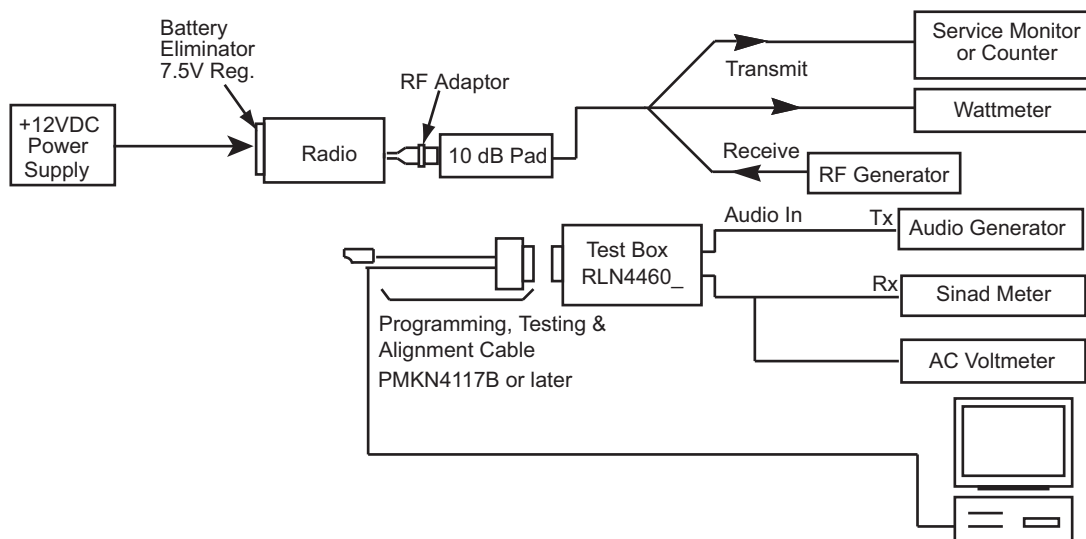

Figure 4-2. Radio Tuning Equipment Setup
A personal computer (PC), Windows 2000/XP/7/8 and a tuner program are required to tune the radio. To perform the tuning procedures, the radio must be connected to the PC, Test Box, and test equipment setup as shown in Figure 4-2.